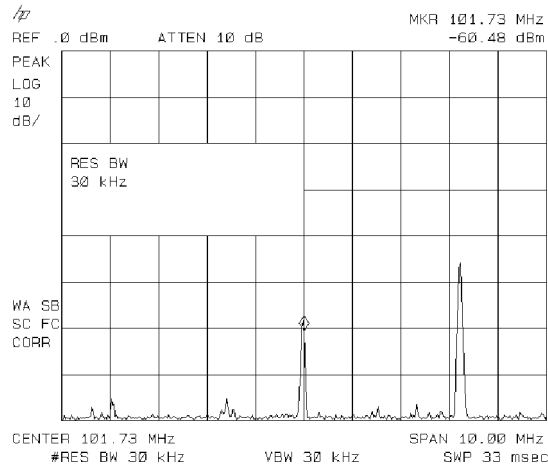

Figure 6-18. Decreasing Resolution Bandwidth
2. Press **(BW)** then **(↓)**. The low-level signal appears more clearly because the noise level is reduced. See Figure 6-18.